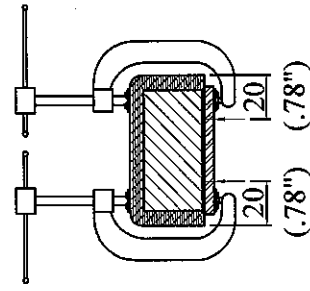

Fig. 2
- Secure Boat Bunk with G clamps. Fig 2.